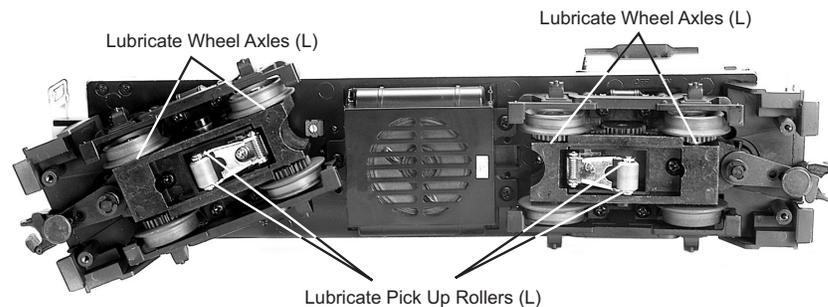
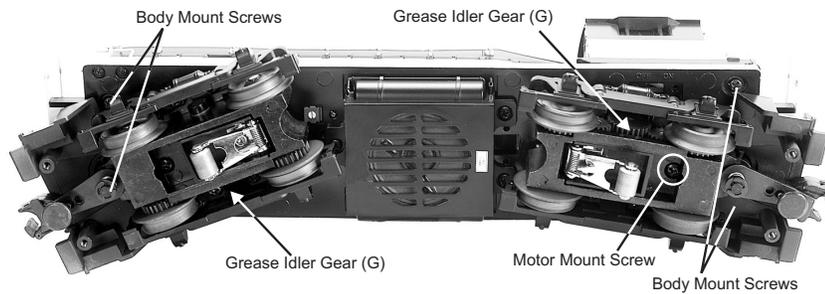

Figure 2. Lubrication Points on the Engine
Figure 3. Greasing Points on the Engine and Locations of Body Mounting Screws
Although the engine was lubricated at the factory, it is important that you lubricate the chassis before operation. Lightly grease the outside idler and drive gears (marked "G" in Fig. 3 on pg. 9) to prevent them from squeaking. Use light household oil and follow the lubrication points marked "L" in Fig. 2 on pg. 8. Do not over-oil. Use only a drop or two on each pivot point.
You should regularly lubricate all outside idler gears and pickup rollers to prevent them from squeaking. Use light household oil and follow the lubrication points marked "L" in Fig. 2. Do not over oil. Use only a drop or two on each pivot point.
1. Remove the Phillips screws from the chassis, as seen in Figure 3 on pg. 9, then lift the body away from the chassis. Use caution when removing the body to make sure the handrails clear the cab housing so that the paint is not damaged.
2. Remove the truck blocks from the chassis by unscrewing the black Phillips motor mount screw (labeled motor mount screw in Figure 3 on pg. 9) on the bottom of each truck block.
It is also a good idea to lubricate the outside truck block idler and drive gears with grease occasionally. Add grease to the points marked with “G” in Figure 3.